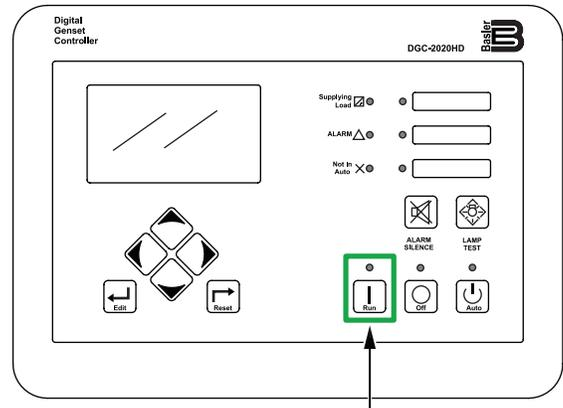

Figure 85. Digital Controller (Run Button)
6. Press the **Run button** (Figure 85) to start the engine.